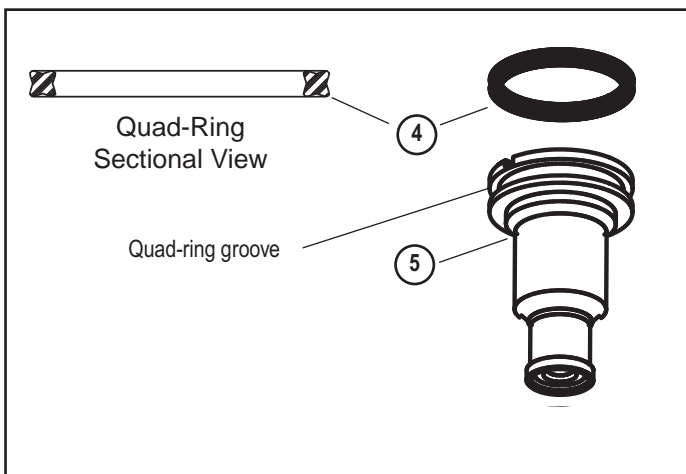

Figure 6 Quad-Ring and Piston Assembly
2. Place the return spring(6) in the bore of the purge valve housing.
3. Using the lubricant(13) provided, lubricate the quad-ring(4) and the quad-ring groove of the piston assembly(5). Install the quad-ring(4) on the piston assembly(5). Warning: Take care not to twist the quad-ring(4). Refer to Figure 6.
4. Insert the piston assembly(5) with the quad-ring (4) into the I.D. of the spring inside the purge valve housing.